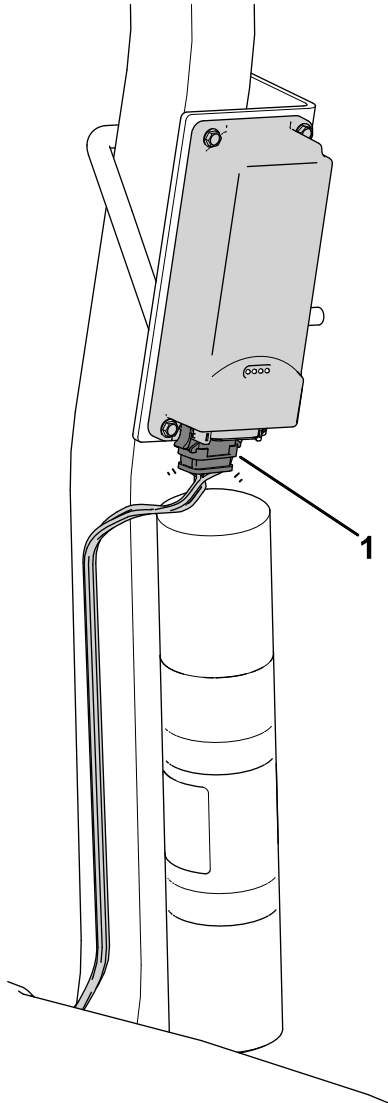

Figure 13
3. Install the connector labeled P02 on the telematics wire harness to the telematics device (Figure 13).